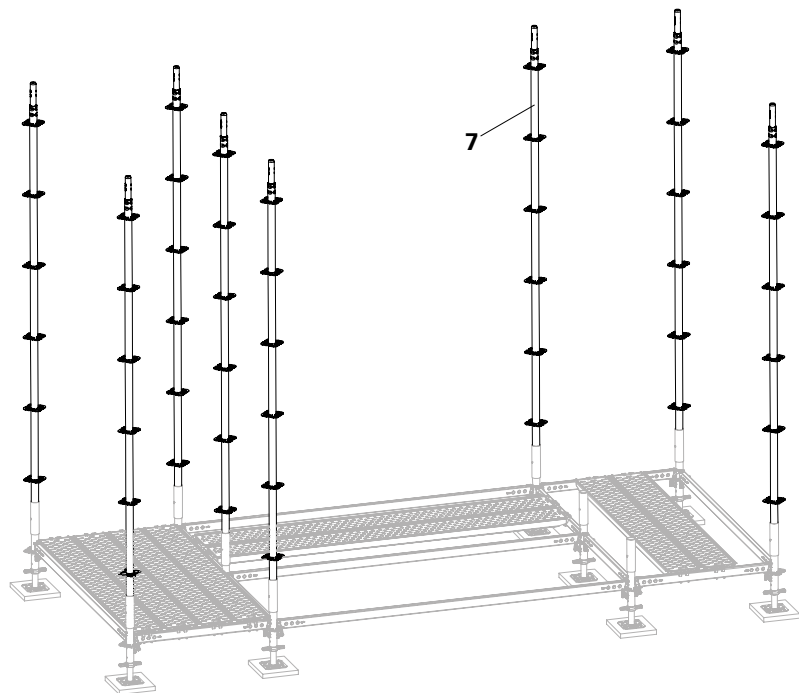

Fig. A2.01
1. Fit all Standards UVR-2 300 (**7**) apart from two pieces. (Fig. A2.01)